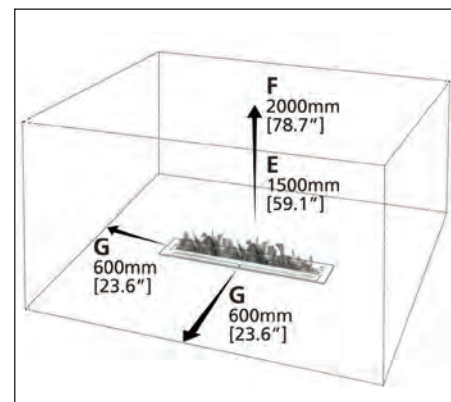

Fig. 4
B. BURNER PLACEMENT "WITHOUT A FIREBOX" (Fig.4)